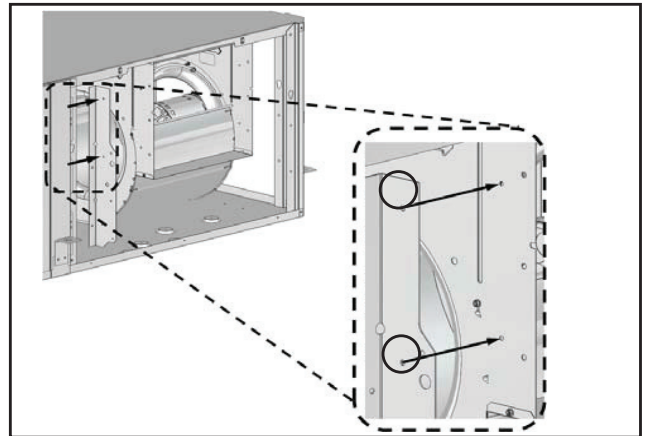

Fig. 37 - Reinstall Bracket
11. Reinstall bracket in the new vertical position using (2) screws. See Fig. 37.